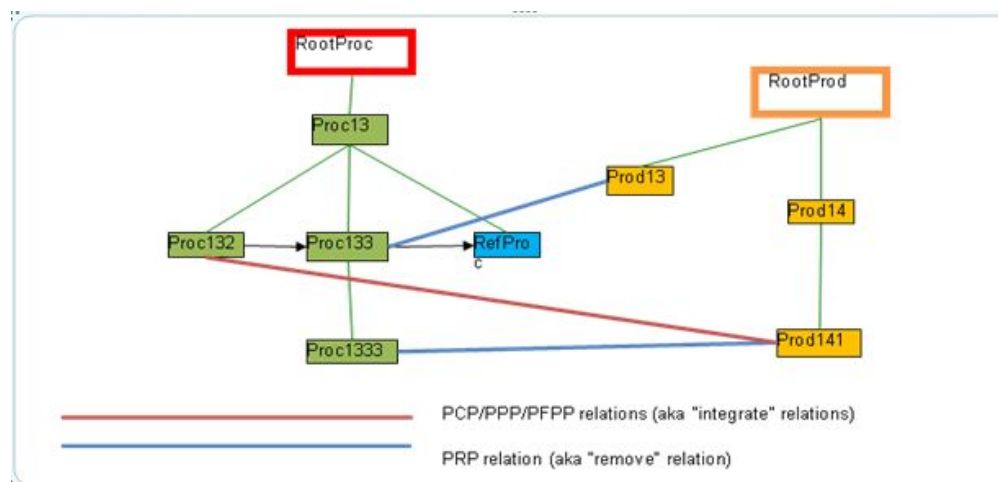

Figure 37: Removed State
- At least one predecessor process is linked with the product via a “removing relation”, and no other predecessor process is linked with the product via an “integrating relation”. For example, “Prod13” in Figure 37.
- The Product is linked with some predecessor processes via both “integrating” and “removing” relations. Further, there exists at least one “removing” process for each “integrating” process, such that the “removing” process is a successor of the “integrating” process. For example, “Prod141” in Figure 37.